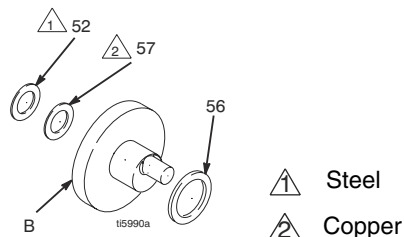

FIG. 2
1. Evenly lubricate inside of bronze bearing (C) in drive housing (49) with high-quality motor oil. Liberally pack top roller bearing (E), lower bearing (D) inside connecting rod (6) with bearing grease.
2. Assemble connecting rod (6) to drive housing (49). Rotate connecting rod to lowest position.
3. Apply grease to washers 52, 57 and 56. Install in order shown in FIG. 2.
6. Align connecting rod with crank (B) and carefully align locating pins in drive housing (49) with holes in pinion housing (50). Push drive housing onto pinion housing or tap into place with plastic mallet.